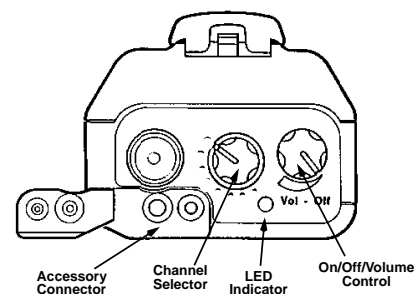

Figure 3.
1. Turn the radio on and rotate the CHANNEL SELECTOR to the desired channel position. (See Figure 3.)